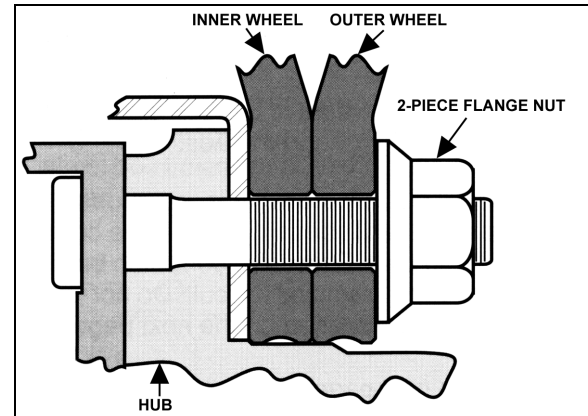

FIGURE 5: DRIVE AXLE WHEELS
1. Loosen a hex stud nut three turns (Fig. 5);